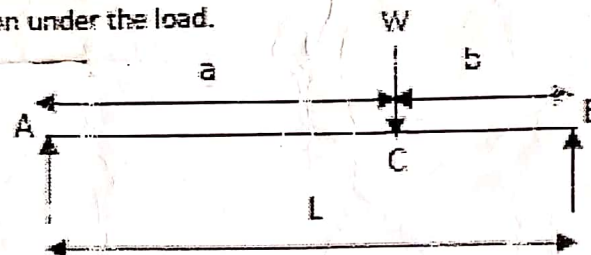

Fig. 2
2. A beam AB of length L simply supported at the ends carries a point load W at a distance a from the left end as shown in Fig. 2. Derive the equation for the deflection under the load using Macaulay's method. Hence, if $W = 40 \text{ kN}$, $a = 4 \text{ m}$, $L = 6 \text{ m}$, $I_x = 73.3 \times 10^{-6} \text{ m}^4$ and $E = 200 \text{ GN/m}^2$, calculate the magnitude of the deflection under the load.